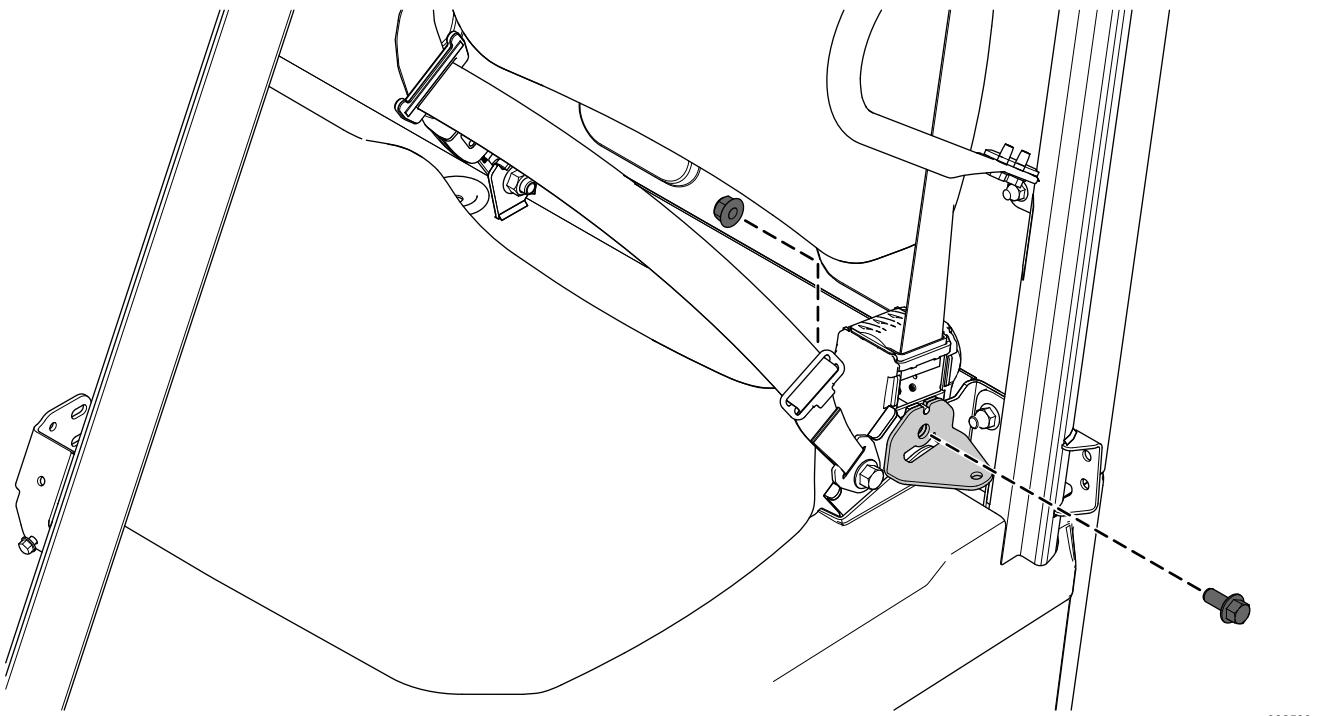

Figure 3
2. Using the previously removed flange-head bolt (7/16 x 1 inch) and locknut (7/16 inch), secure the left door-strut bracket to the seat belt bracket (Figure 3).